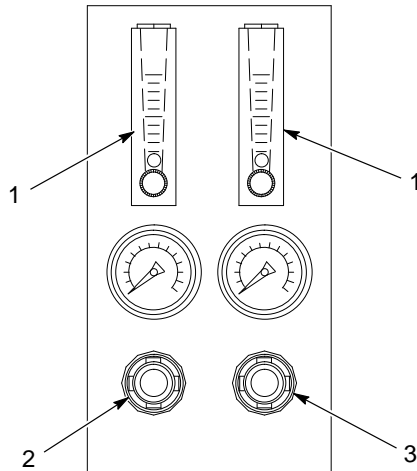

Figure 2-10 Rotary Sieve Pneumatic Panel
See Figure 2-10. This pneumatic panel is used with Nordson NRPS-100 and AZO rotary sieves. Older Nordson rotary sieves did not have a pneumatic panel.
1. If your system uses a rotary sieve equipped with a pneumatic panel, set the bearing air seal air pressure to 1.7 bar (25 psi) and the flow meters to 100 SCFH. See Figure 2-10.